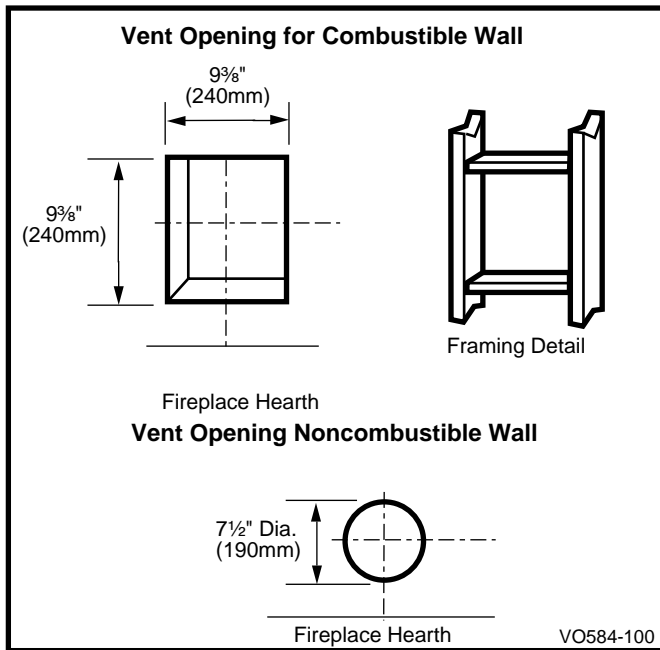

Fig. 31 Locate vent opening on wall.
Locate vent opening on the wall. It may be necessary to first position the fireplace and measure to obtain hole location. Depending on whether the wall is combustible or noncombustible, cut opening to size. (Fig. 31) (For combustible walls first frame in opening.)
Combustible Walls: Cut a 9 3/8"H x 9 3/8"W (240mm x 240mm) hole through the exterior wall and frame as shown. (Fig. 31)
1. Establish vent hole through the wall (Fig. 31)